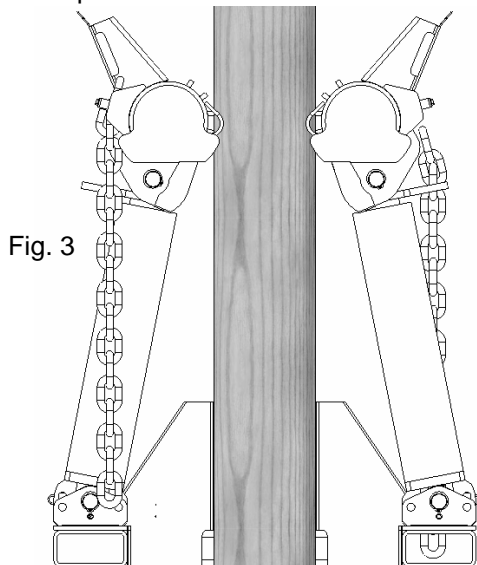

Fig. 3
4. Remove the transport pins. Keeping the heads rotated outward, lean the cylinders toward the pole. Depending on the size of the pole, the cylinders may stop before the heads touch the pole. If this happens, rotate the heads until they touch the pole. See Fig. 3. The cylinders should be leaned inward as far as possible.